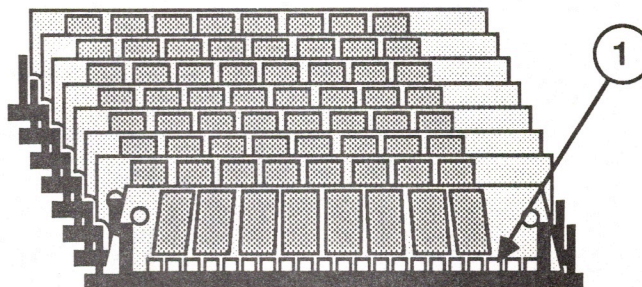

FIGURE 11
1. With the contacts (Figure 11, #1) on the SIMM pointing down, set the SIMM into the connector at an angle. Push back on the top corners of the SIMM. You will hear a click when the SIMM snaps into place.